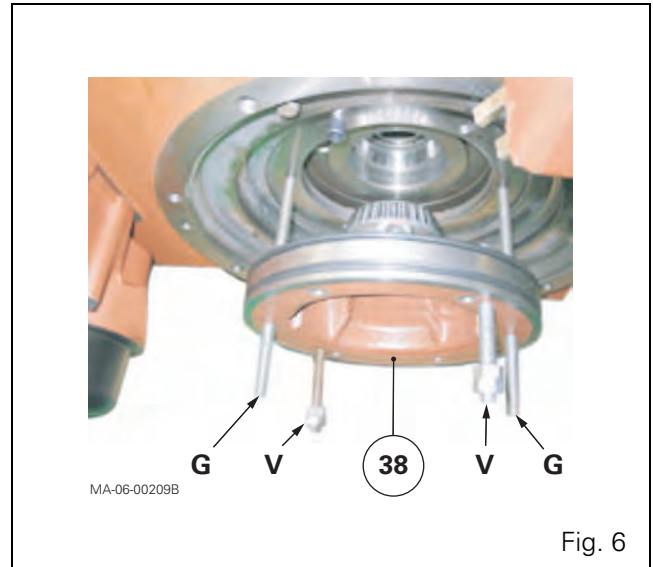
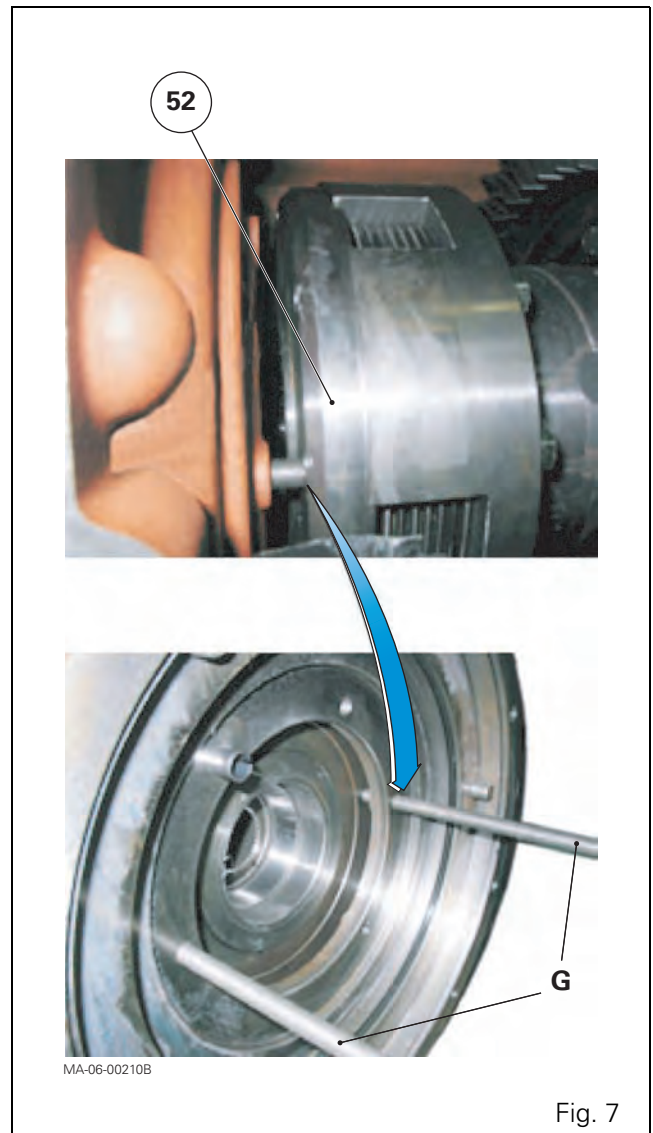

Fig. 6
Fig. 7
6. Select two original screws (39) fitted opposite one another on the left-hand differential support. Unscrew them.
7. In their place, screw in two guide studs G (M12, length approx. 120 mm) (Fig. 6) until one of their ends is against the cover plate (52) of the differential unit (Fig. 7).
8. Use two locally obtained extraction screws V (M12, length approx. 120 mm) (Fig. 6). Screw them into the tapped holes of the left-hand differential support in preparation for its removal.
10. Remove the left-hand differential support. Recover or discard the "O" ring (34). This seal seals the brake piston chamber. Check that the following are present on the support:
- the bearing cone (54);
- the shim(s) (55) (not to be discarded or lost), used to preload the tapered roller bearings of the ring gear/differential assembly.
11. Check that the locating pin (40) is present on the centre housing.